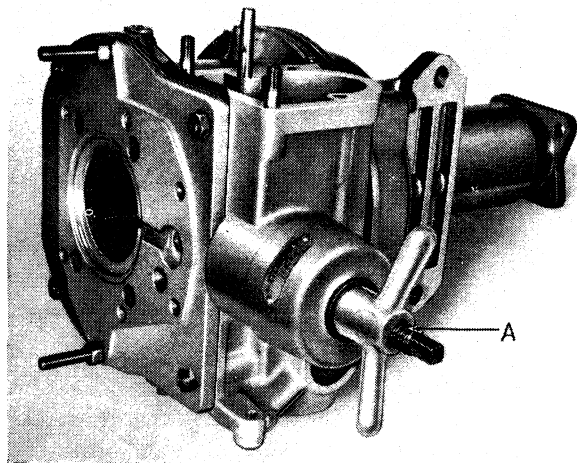

Fig. 11 Extracting the Oil Pump.
Screw the short threaded end (A) of the extractor bolt into the oil pump body in place of the special screwed plug. Turn the wing nut on the long screwed end of the extractor bolt (A), drawing out the pump body (Fig. 11).